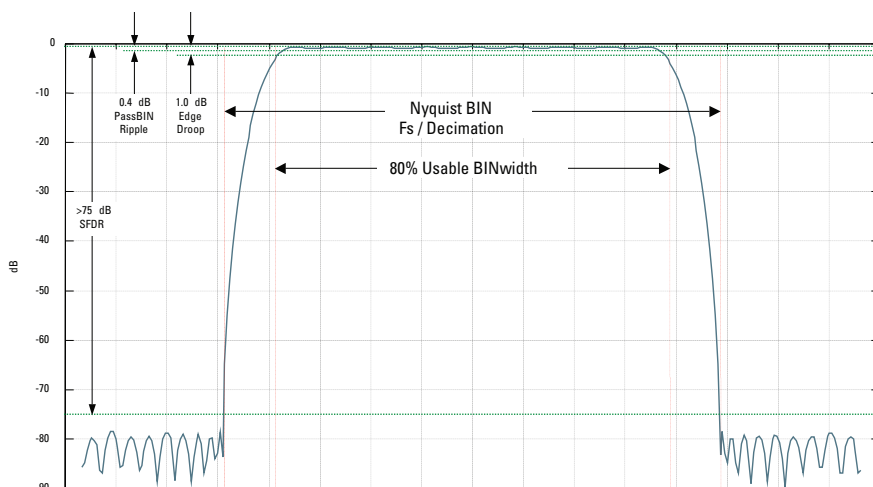

Figure 4
Since the channelizer decimation (256) and FIR filter decimation (4 to 39) multiply, the overall range of decimation range for the entire core is 1,024 to 9,984 in steps of 256. Each of these 36 available decimation factors requires its own set of filter coefficients, which are stored in a table within the FPGA. For an input clock of $F_s = 100$ MHz, the range of output bandwidths using the default 80 percent filter characteristic is approximately 8 kHz to 80 kHz. For any decimation setting, the overall DDC channel characteristics, including the channelizer response, are shown in Figure 4.